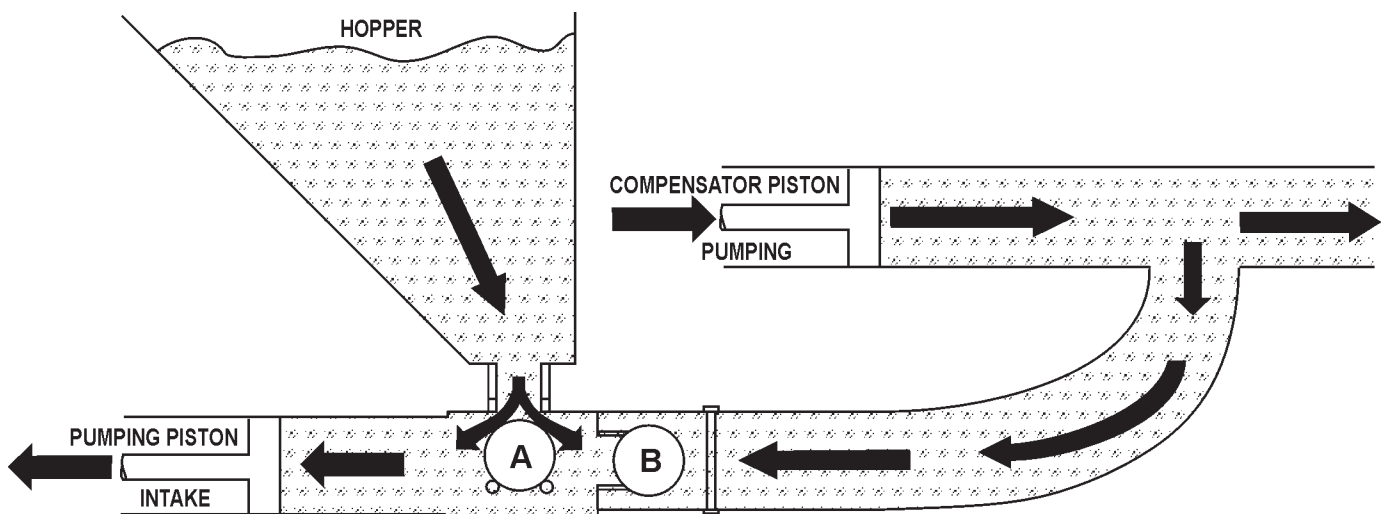

Figure 10. Pumping Cylinder
The pumping cylinder (Figure 10) retracts drawing the material past the ball (A) and filling the cylinder. The compensator piston is pumping the material out to the nozzle and causing ball (B) to seat preventing the material from returning to the pumping cylinder intake.